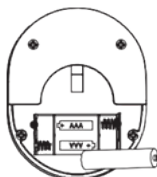

Figure 18
1. Install two AAA batteries according to the positive and negative battery marks (see Figure 18).